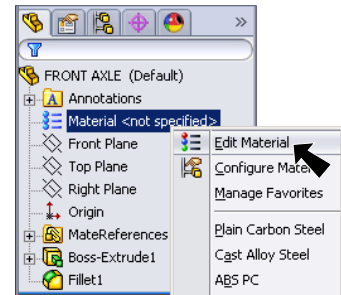

Fig. 12
Step 1. Right click Material  in the Feature Manager and click Edit Material, Fig. 12.